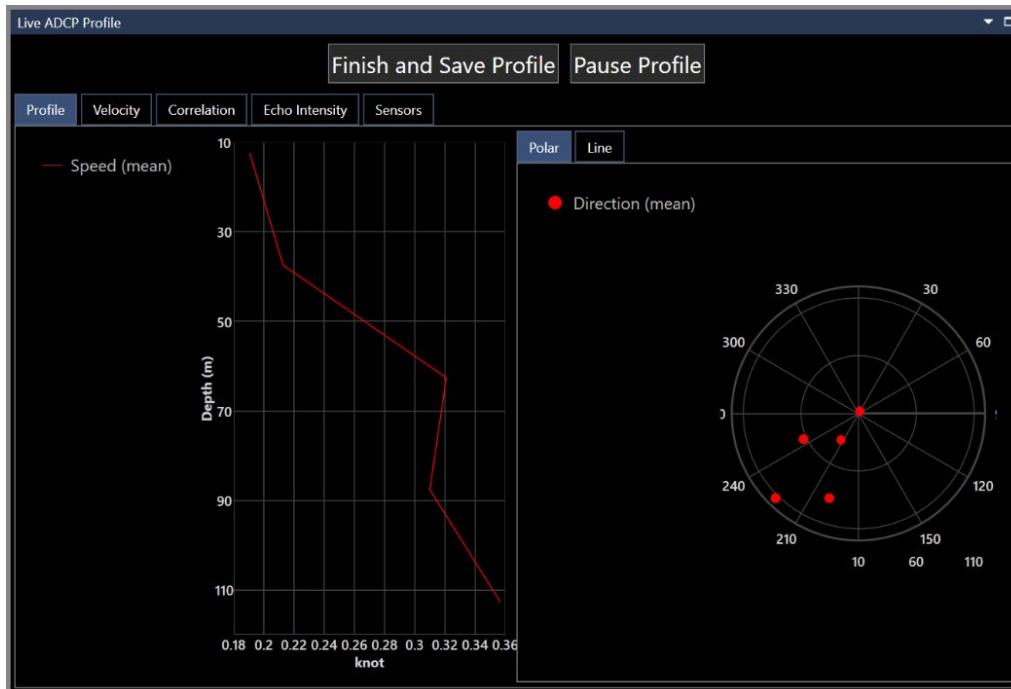

FIGURE 18-29 LIVE ADCP PROFILE – CHART VIEW
2. Click Start Profile, this opens the profile chart showing live ADCP data, see Figure 18-29